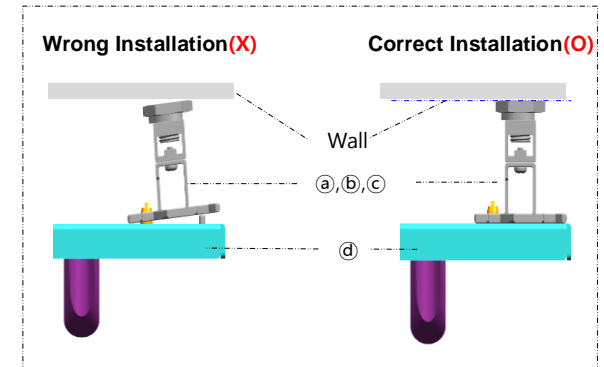

Fig4. Maintain the Parallel Frame
- ※ Warning. ①, ② and ③ sides should be attached, and the three(3) sides of Wall/Frame side/Jig side should be parallel.[Fig.4]